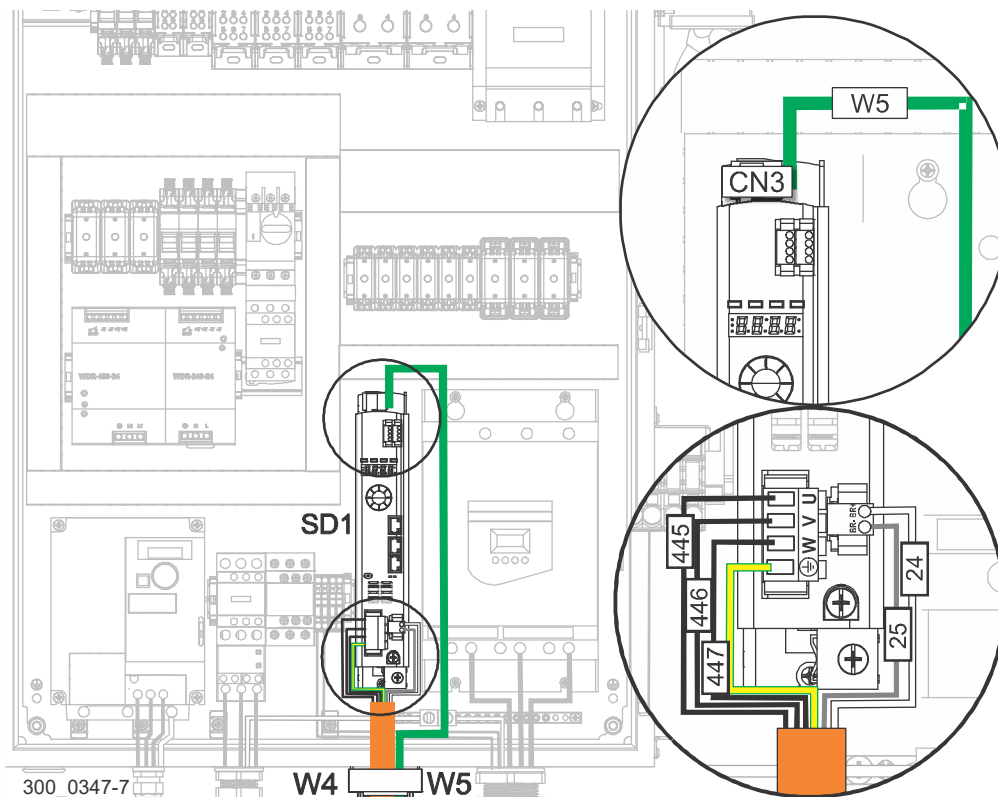

FIG. 3-18 HIGH VOLTAGE BOX
1. Route the up/down servo motor cable (W5) through the connector labeled W5 located at the bottom of the high voltage box. See Fig. 3-18.